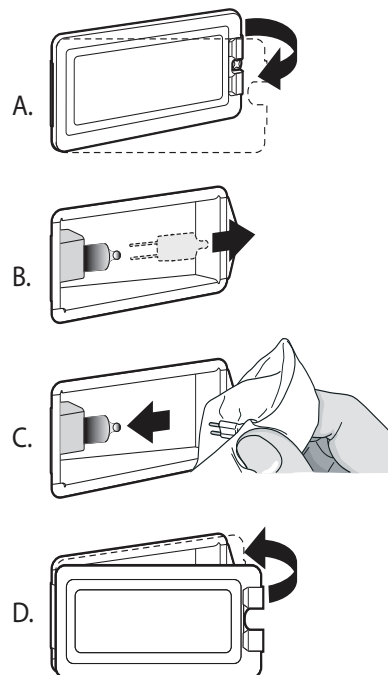

Figure 37: Bulb Replacement
3. Slide the tip of a flat blade screw driver between the fixing clip and the lamp housing (*Figure 37, A*).
6. Remove the bulb by grasping and sliding the bulb straight back until the two prongs have cleared the ceramic holder (*Figure 37, B*).
8. Press down to seat the bulb (*Figure 37, C*).
9. Slide the protective lens into the holder clip and push the other end until the fixing clip snaps back into the housing (*Figure 37, D*).